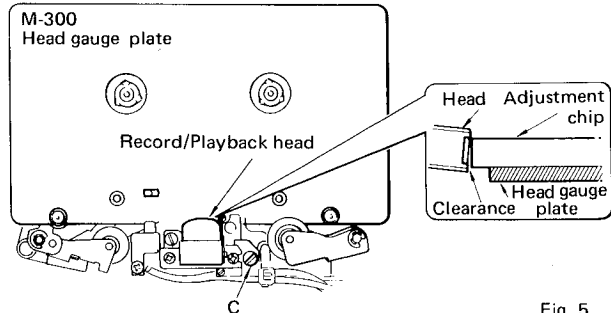

Fig. 5
2. If there is a clearance at record/playback head, adjust so that the clearance will be at the lower side as shown in the Fig. 5.